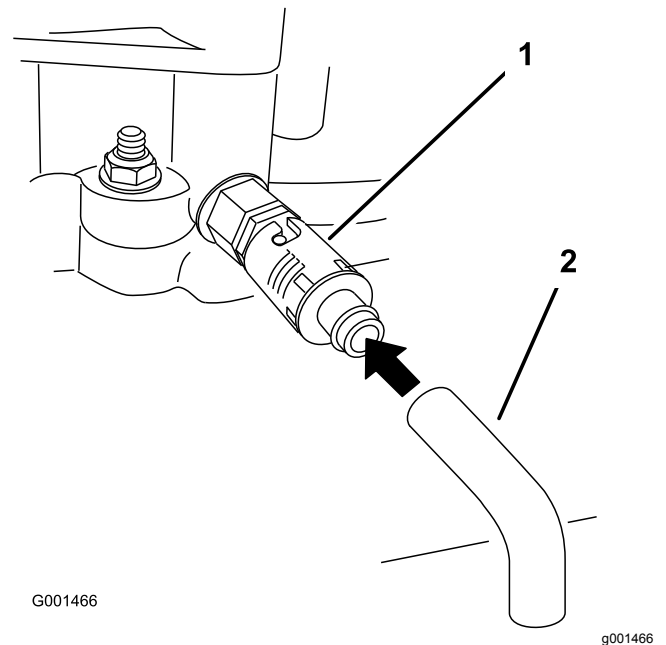

Figure 23
7. Rotate the oil-drain valve to allow the oil to drain (Figure 23).
9. Remove the drain hose (Figure 23).